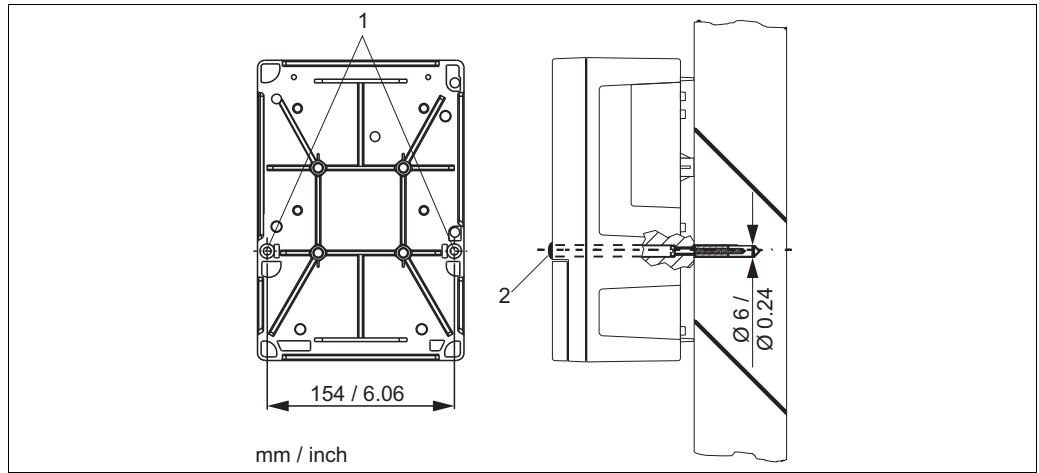

Fig. 6: Wall mounting field device
1. Drill the bores as shown in Fig. 6.
2. Drive the two fixing screws through the securing bores (1) from the front.
4. Cover the bores with plastic caps (2).